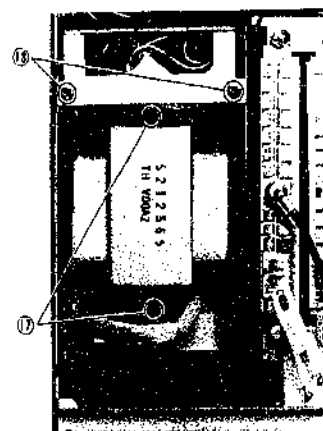

Fig. 17
- ⑩ 2 screws. (Fig. 17)
- 2) ⑪ 2 screws. (Fig. 17)